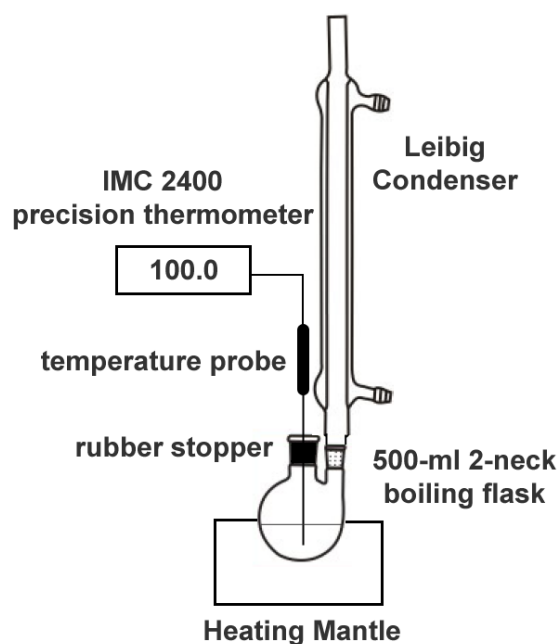

Figure E-2. Ebulliometry Apparatus
- c. Insert temperature probe into central port of boiling flask (see Fig E-2).